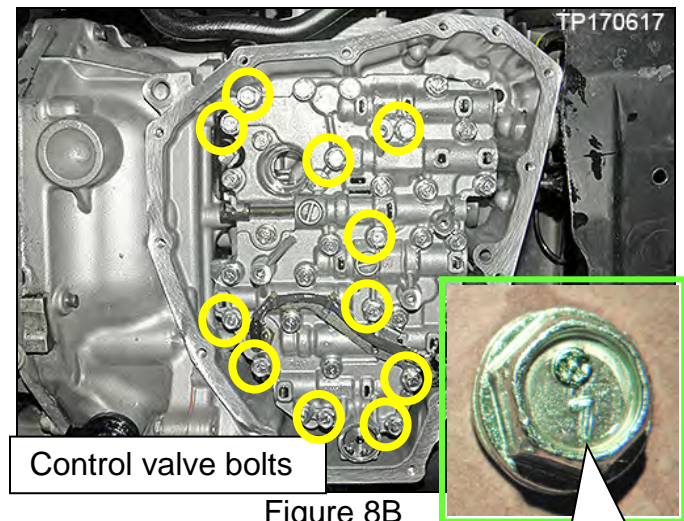

Figure 8B
13. Remove ONLY the eleven (11) control valve bolts circled in yellow with markings as shown in Figure 8B.